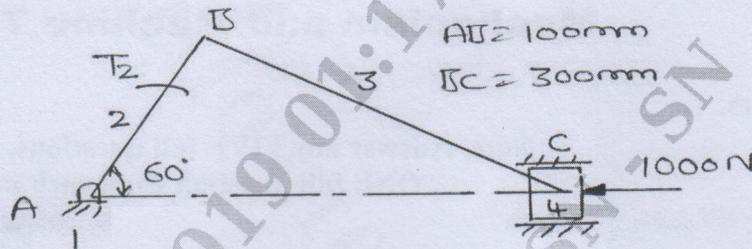

Fig.Q4(a)
- 4 a. Determine the required input torque on the crank of a slider crank mechanism shown in Fig.Q4(a) for static equilibrium. (12 Marks)